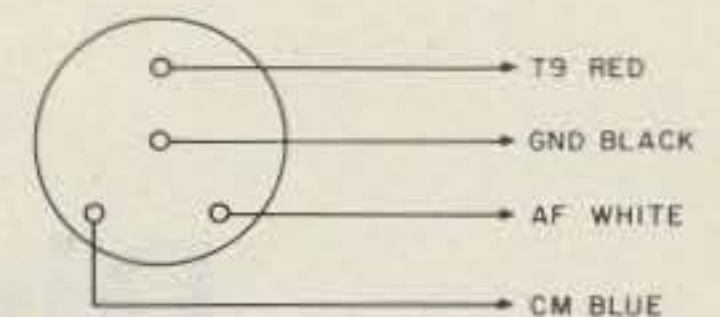

Fig. 5. Wiring of the TR-7500 accessory jack on the rear panel. The CM wire is removed and taped. The scanner antenna lead is then connected to this pin.
for all connections if you can compromise one of the functions provided for at this point. Fig. 5 shows the functions available at this jack. The T9 output provides +9 volts during transmit only. Since this is just what is needed for the mute control signal, it can be used directly. The center-meter (CM) output would not normally be used, so it can be unsoldered and taped. This pin may then be used for the scanner antenna lead.